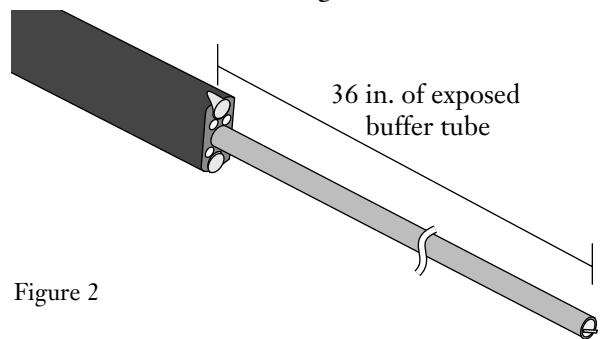

Figure 2
**5.1** To prepare the drop cable, remove 36 inches of cable sheath and cut the strength elements flush with the end of the sheath (Figure 2).